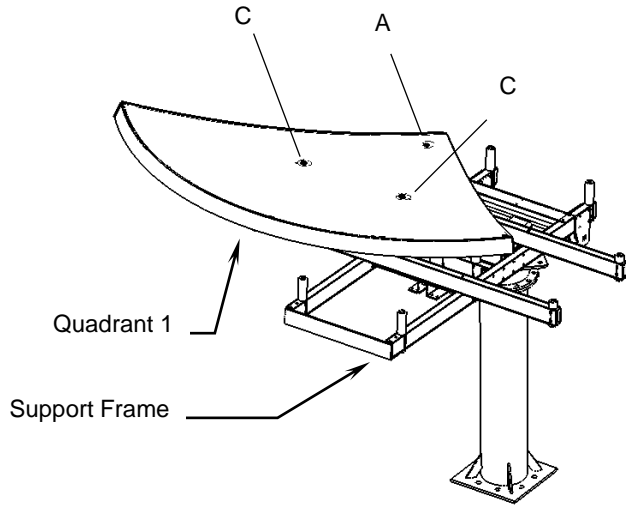

Figure 15: Quadrant 1 Assembly
12. Position quadrant 1 (quadrant 3 for inverted) to the top side of the frame as shown in Figure 15, Quadrant 1 Assembly. Note that it may be necessary to loosen the three inserts that pass through the reflector to attain the proper alignment with the three tubes in the support frame. This procedure may occur with each of the quadrants.